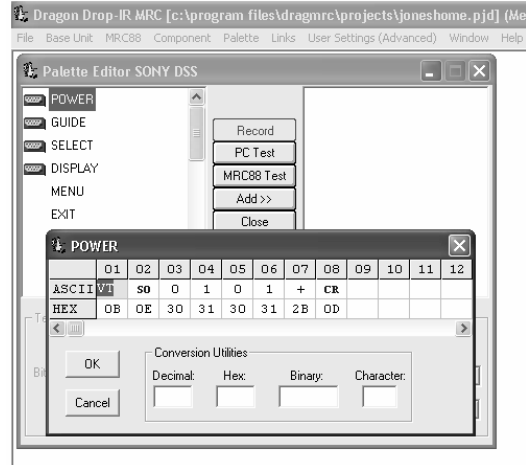

Figure 22
6. Select the command the left side of the Palette Editor (i.e. Power, Play, Stop etc.). An RS232Command String Editor window will now appear as shown in **Figure 22**.